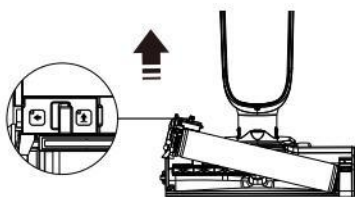

Figure 4-16
Disassembly: Pull the roller unlock button to the left and pull up to pull out the roller brush, as shown in Figure 4-16.
A. Insert the adapter into the base charging port and power plug board as shown in the figure, as shown in Figure 4-16;